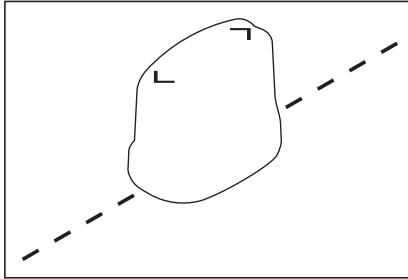

Fig. 22: Orientation of the generator in relation to the line for inductive energising
1. Position the longitudinal axis of the generator parallel to the line to be located (Fig. 22).